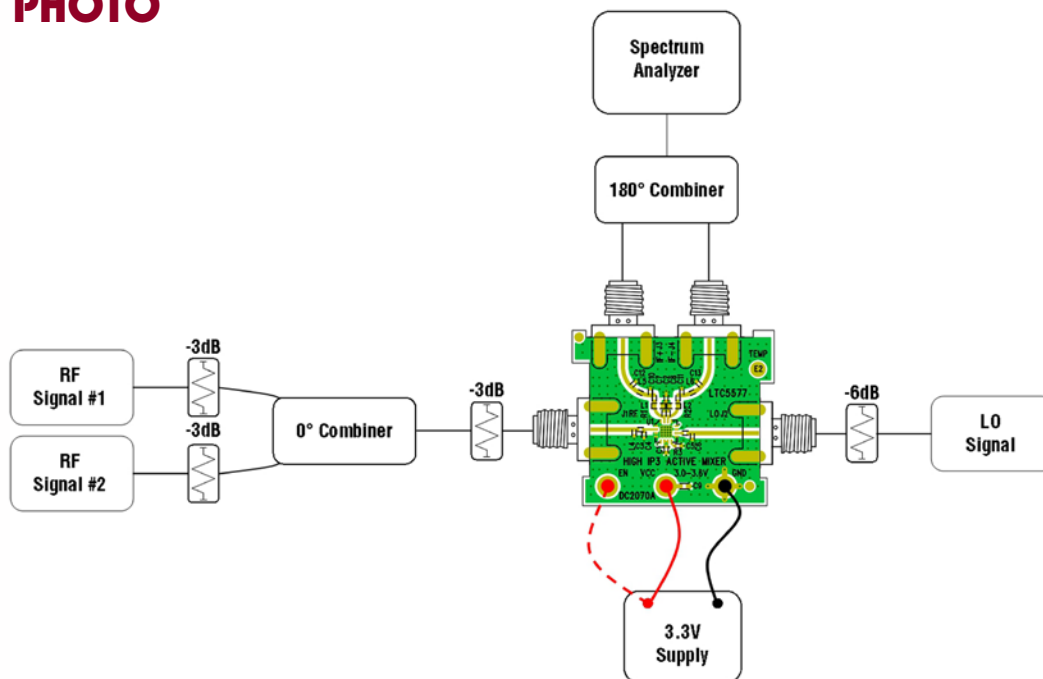

Figure 1. Test Setup for Mixer 2-Tone Measurements
- High quality combiners should be used to present a broadband 50Ω termination on all ports as well as provide good port-to-port isolation. Attenuator pads should be used on the inputs to the combiner and the RF input port of the LTC5577 mixer, as shown in Figure 1. Adding attenuator pads further improves source isolation and helps prevent the signal generators from producing intermodulation products.
2. Connect all test equipment and the power supply as shown in Figure 1.